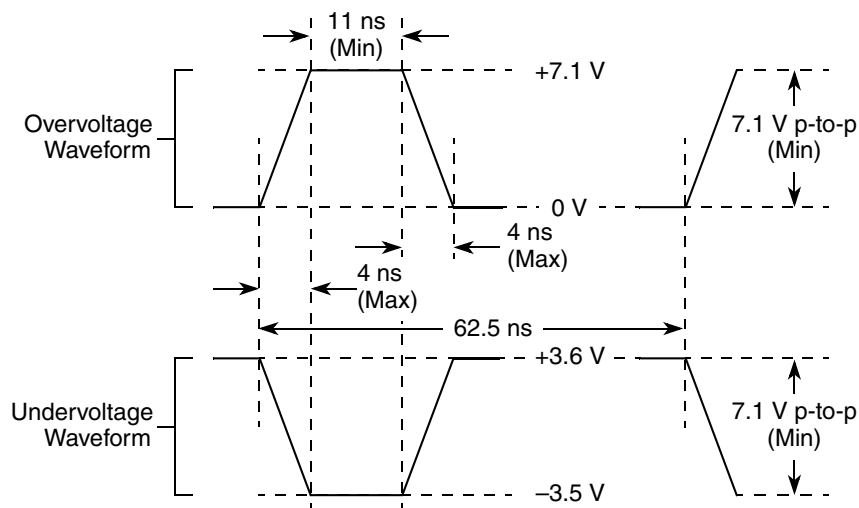

Figure 3. Maximum AC Waveforms on PCI Interface for 3.3-V Signaling
- ⁶ OV_{IN} on the PCI interface can overshoot/undershoot according to the PCI Electrical Specification for 3.3-V operation, as shown in Figure 3.
Figure 3 shows the undershoot and overshoot voltage of the PCI interface of the MPC8347EA for the 3.3-V signals, respectively.